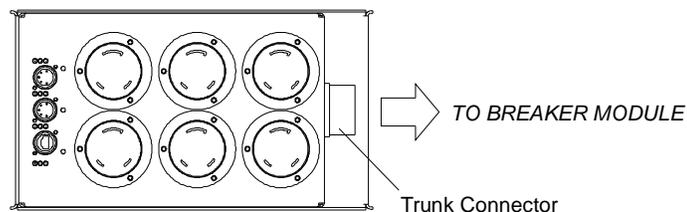

Figure 2-3: Breakout Box Trunk Connection
Step 5. Connect appropriate length Trunk Cables to Breakout Box trunk connectors and route towards rack (**Figure 2-3**).